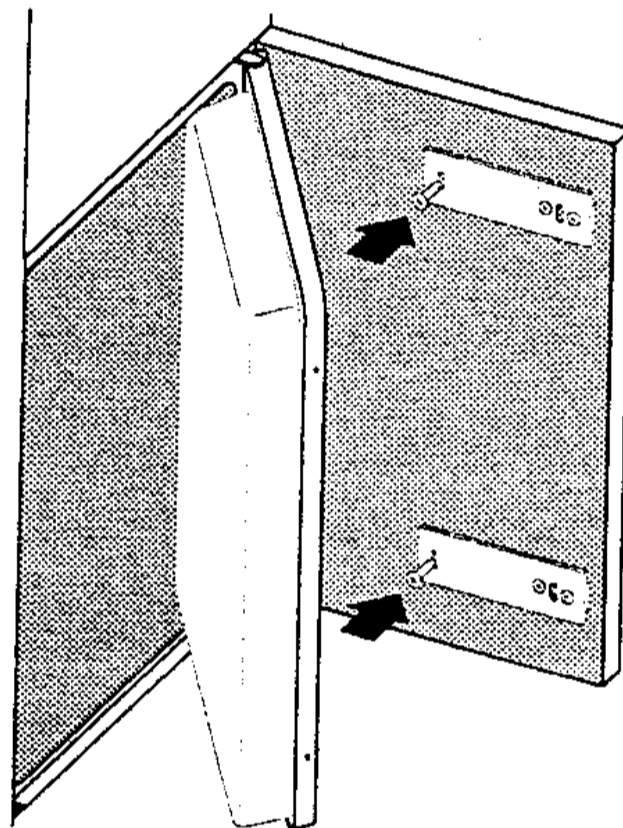

Fig. 4
- ❖ Fix the slides and be careful not to move them while fixing (Fig. 4).